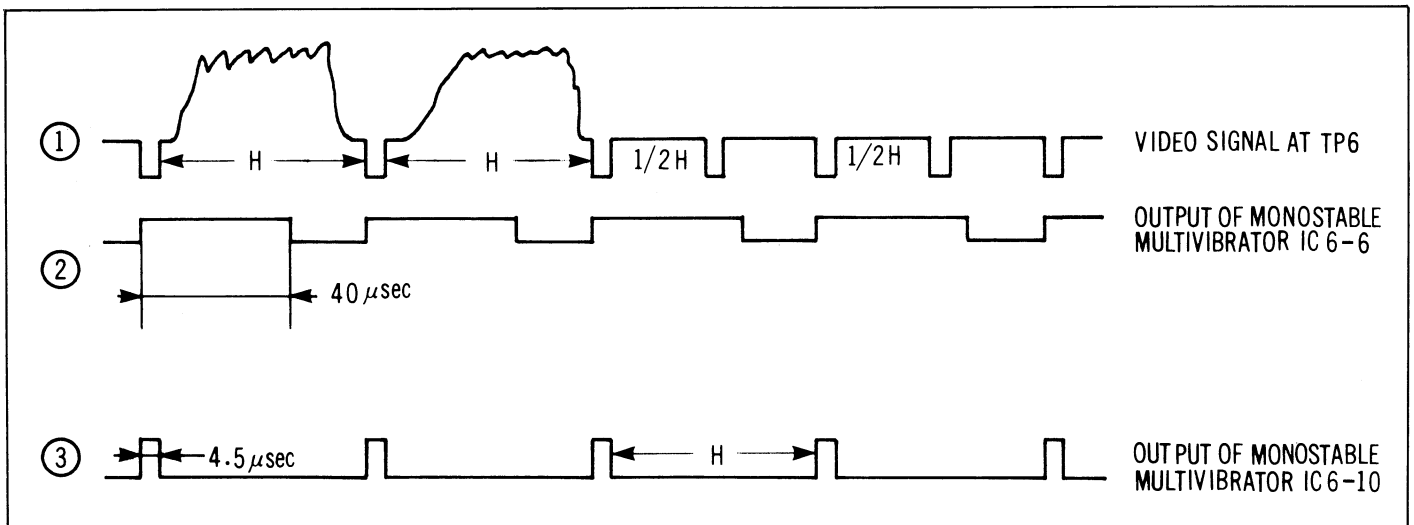

Figure 2-108
Therefore every positive going transition of the output occurs in step with horizontal sync timing. See Figure 2-108. In order to re-create the pulse width of the original horizontal sync, the signal at pin (6) is sent to another monostable multivibrator, IC6-(9) - (15), whose duration, as determined by C79, R160 and R195, corresponds approximately to the horizontal sync duration, 4.5 μ sec.